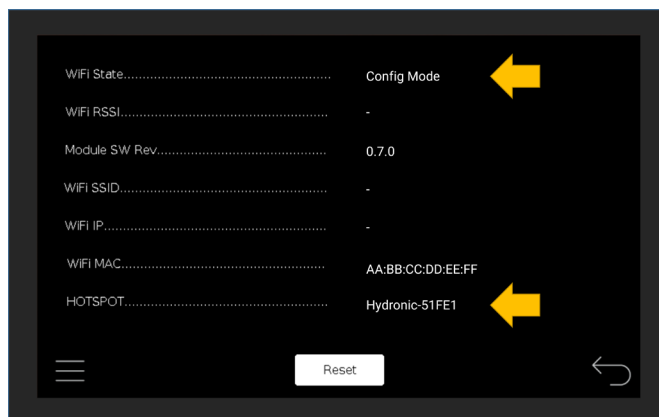

Figure 11. Wi-Fi in Config Mode and HOTSPOT Identifier
2. The Wi-Fi status screen should display the Wi-Fi State, indicating "Config Mode" wireless connection, and also the HOTSPOT identifier. See **Figure 11**.
NOTE: If the Wi-Fi State does not indicate "Config Mode", press the "Reset" button on the touchscreen. See **Figure 11**.